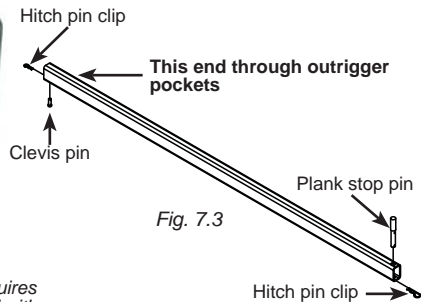

Fig. 7.3
- 1- Remove the hitch pin clip, the clevis pin and the plank stop pin (fig. 7.3) and slide the outrigger in the top outrigger pockets on the motorized unit or the bridge, leaving no more than 30" (76,2 cm) protruding from the structure if bottom outriggers are installed, or no more than 41" (104 cm) if there are no bottom outriggers installed. Replace the hitch pin clip, the clevis pin and the plank stop pin.
- 1- Remove the hitch pin clip, the clevis pin and the plank stop pin (fig. 7.3). Slide the outrigger in the bottom outrigger pockets on the motorized unit or the bridge, leaving no more than 41" (104 cm) protruding from the structure. Replace the hitch pin clip, the clevis pin and the plank stop pin.
- 1- Remove the hitch pin clip and the clevis pin (fig. 7.3, p. 72) and slide one outrigger in the **top section** of the bottom outrigger pockets on the motorized unit or the bridge.
- 5- Insert the clevis pin into the top outrigger (fig. 7.3, p. 72) and pull it up until its head is snug against the outrigger.